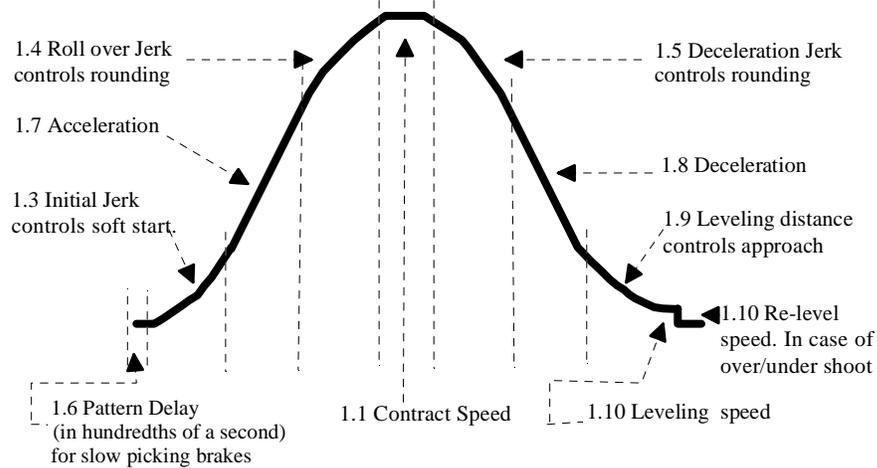

FIGURE I.4.1
The speed profile drawing, Figure I.4.1 below, provides information, at a glance, of the parameters involved for the adjustment of the elevator ride. Please use as reference.
I.4.2. Make a series of test runs: up one floor, then down one floor; then a multiple floor run up, then down. At every run adjust, as necessary, any of the speed curve parameters depicted on figure I.4.1 below. Refer to SDI's manual drawing "SDI SUBMENU 1", at end of SDI manual, for quick reference about "navigating" through program variables, submenu 1. If car vibrates, check tach mounting and wiring, if correct, reduce Speed Gain adjustments, parameters 3.09 & /or 3.10 (refer to page 53 in the drive manual). As soon as car is able to run at top speed, perform step I.4.3 below, and then repeat this step as necessary.